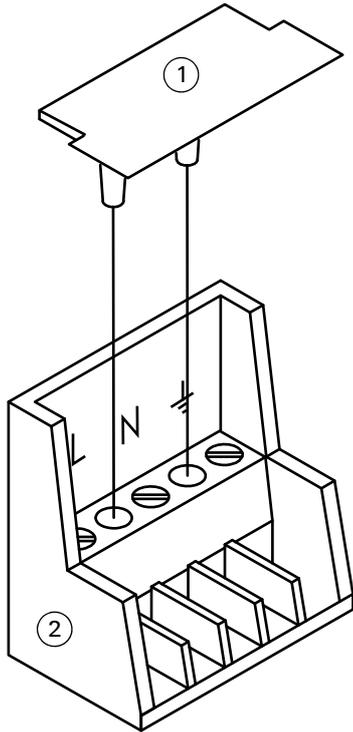

Fig. 17: PSU Mains Connector Cover (detail)
- 2 On the PSU locate the mains connector, at the top of the unit. If the protective cover is fitted to this connector, remove it. For details of the cover and connector see Fig. 17 on page 29.
- 3 On the PSU locate the mains connector. If the protective cover is fitted to this connector, remove it. For details of the cover and connector see Fig. 17 on page 29.